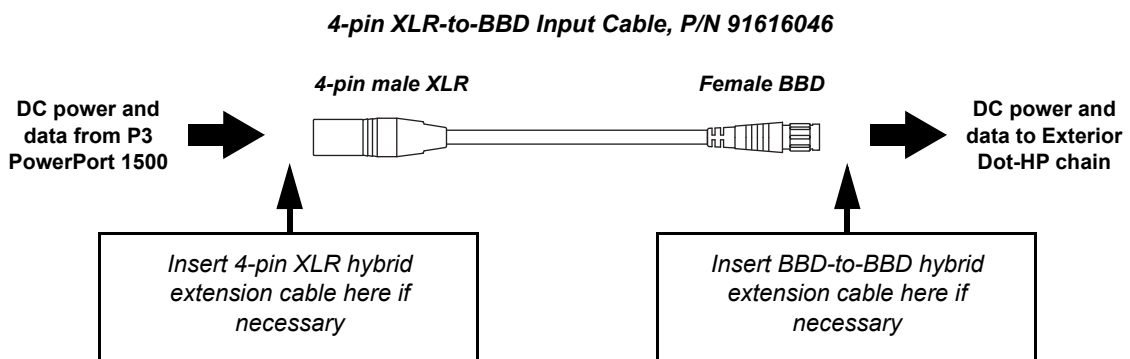

Figure 8: Power and P3 video data input
5. Connect each chain of Exterior Dot-HP Dots to one of the four 4-pin female XLR hybrid (48 VDC power + P3 data) outputs on a P3 PowerPort 1500 using a Martin hybrid 4-pin male XLR to BBD adapter cable, P/N 91616046 (see Figure 8). Alternatively, connect each chain of Exterior Dot-HP Dots to one of the 4 outputs on a P3 PowerPort 1000 IP.